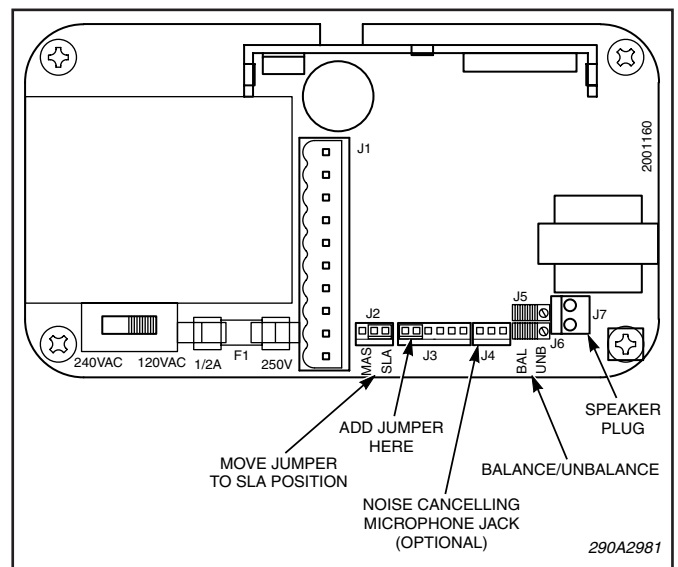

Figure 1.
2. See figure 1. To remove the front panel, unplug the front panel wires/connector from the printed circuit board (J3).
3. The intercom is set at the factory in the master (MAS) mode. To set it to the slave (SLA) mode, use a long nose pliers and move the mini-jumper at J2 from the MAS to the SLA position (see figure 1).
4. See figure 1. Install the supplied mini-jumper on J3. This jumper replaces the volume control and allows the intercom to be switched, via the remote control lines, into master mode at full volume.